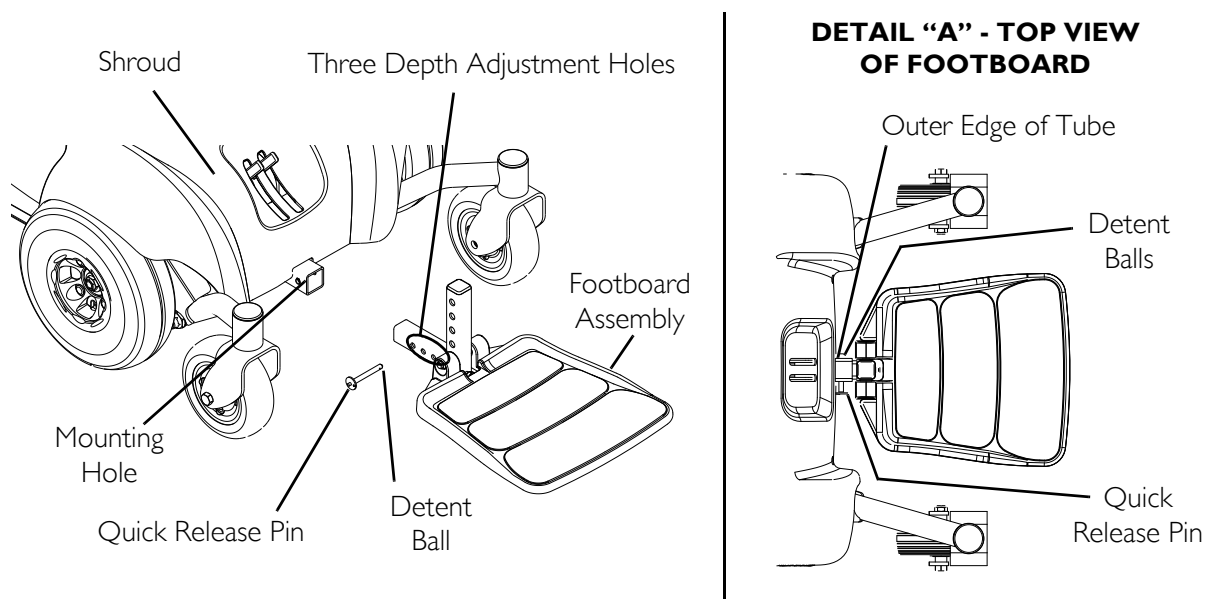

FIGURE 10.3 Adjusting the Footboard Assembly - Depth
NOTE: For this procedure, refer to FIGURE 10.3.
3. Install the quick release pin. Make sure the detent balls are engaged with the outer edge of the tube (Detail "A" of FIGURE 10.3).